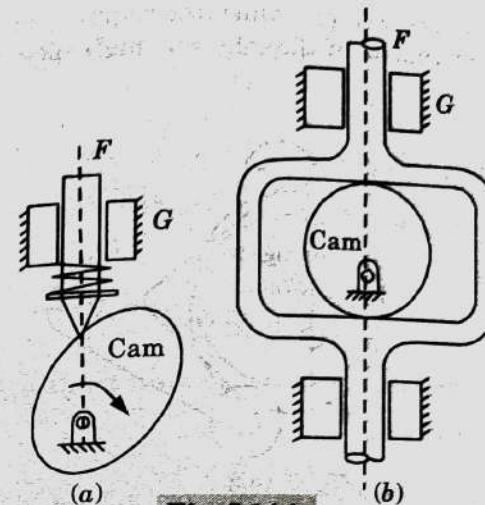

Fig. 5.14.1.
1. A cam in which the follower moves radially from the center of rotation of the cam is known as a radial or a disc cam (Fig. 5.14.1(a) and (b)).